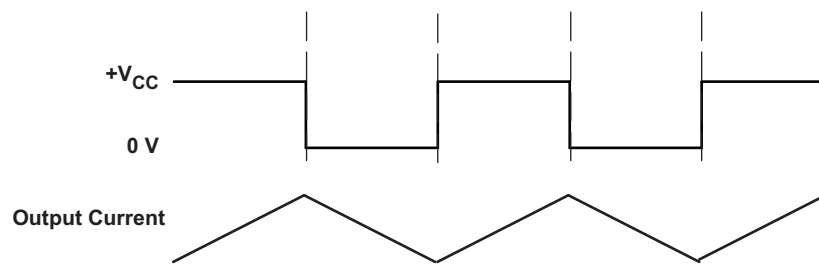
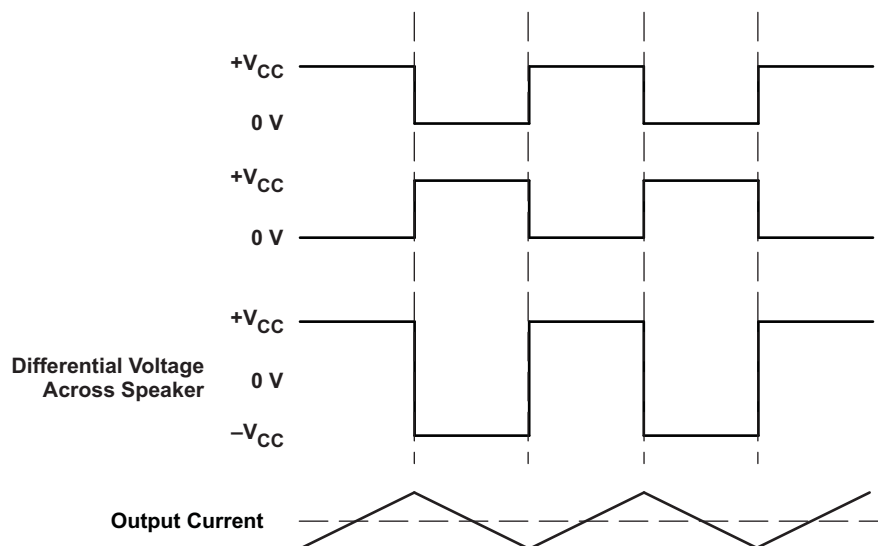

Figure 23. Class-D Modulation for TPA3123D2 SE Configuration
Figure 24. Class-D Modulation for TPA3123D2 BTL Configuration
The TPA3123D2 operates in AD mode. There are two main configurations that may be used. For stereo operation, the TPA3123D2 should be configured in a single-ended (SE) half-bridge amplifier. For mono applications, TPA3123D2 may be used as a bridge-tied-load (BTL) amplifier. The traditional class-D modulation scheme, which is used in the TPA3123D2 BTL configuration, has a differential output where each output is 180 degrees out of phase and changes from ground to the supply voltage, V_{CC} . Therefore, the differential prefiltered output varies between positive and negative V_{CC} , where filtered 50% duty cycle yields 0 V across the load. The class-D modulation scheme with voltage and current waveforms is shown in Figure 23 and Figure 24.